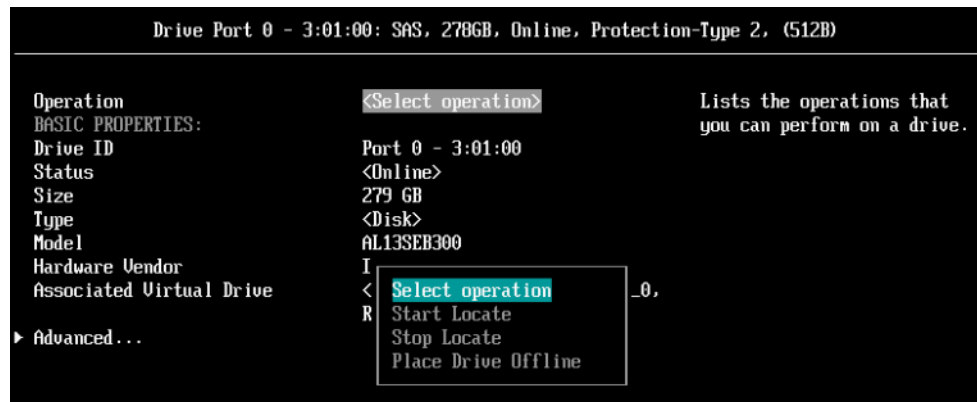

Figure 5-27 Drive operation selection
8. Select each drive individually. From here, you can find a drive and initialize a drive from the menu, as shown in Figure 5-27.